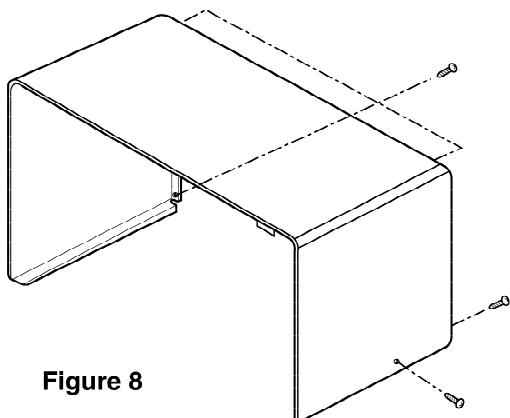

Figure 8
A. REMOVING OUT CASE (Figures 8)
- (1) Remove three screws from the rear section.
- (2) Remove one screw from the side section.
- (3) Push the outer case back about 1 inch (3cm).
- (4) Lift the case from the set.